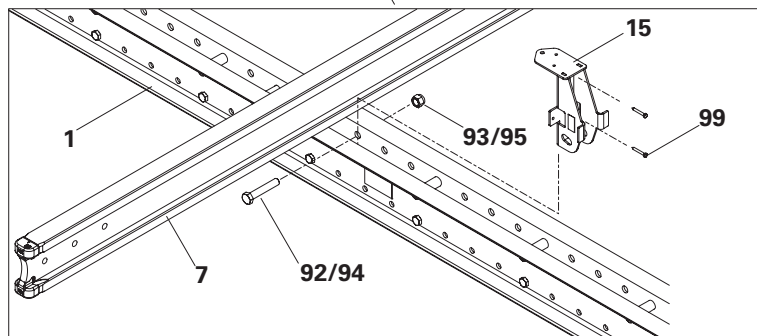

Fig. C3.04a
2. Insert bolts (**92/94**) through the holes in the climbing rail or enclosure post and adapter (**15**). Secure bolts with nuts (**93/95**). (Fig. C3.04a)